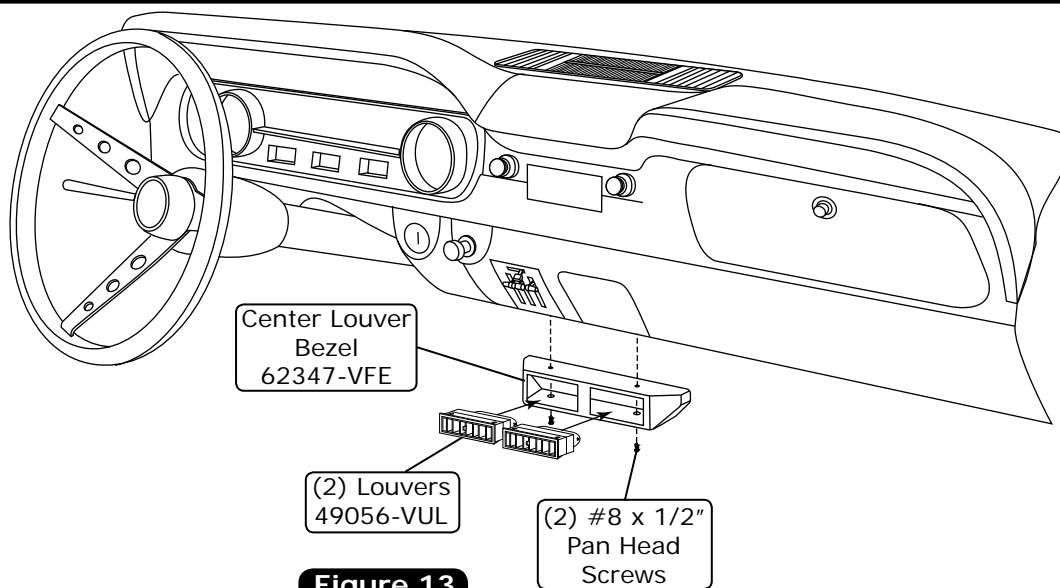

Figure 13
1. Mount the center louver bezel under the dash using (2) #8 x 1/2" pan head screws as shown in Figure 13, below.
2. Install the louvers into the center louver bezel as shown in Figure 13, below.